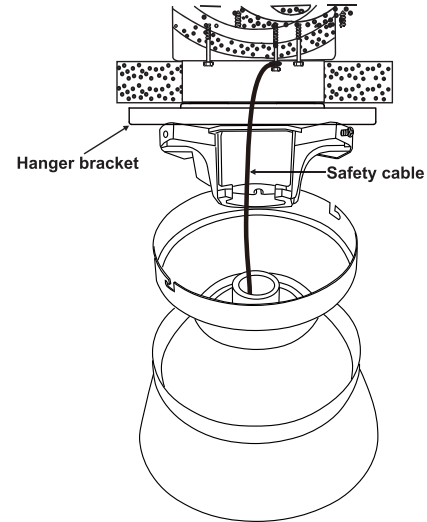

Fig. 23
Step 1. Attach the provided wood screw and washers to the ceiling joist next to the mounting bracket but do not tighten. (Fig.23)